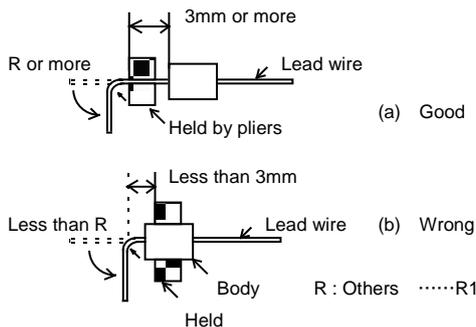

Fig. 1 Lead bending
(1) Bending
- a) Bend a lead by holding it with a pair of pliers at a point at least 3mm away from the sealed body, as shown in Fig.1(a). Two 90° bending or a single 180° bending is allowed.
- b) Bending a lead by holding its body with a pair of pliers or your fingers, as shown in Fig.1(b) must be avoided. Otherwise, the lead will be cut off or the body may get cracked. Additionally, it may result in degraded electrical capabilities and decreased reliability.